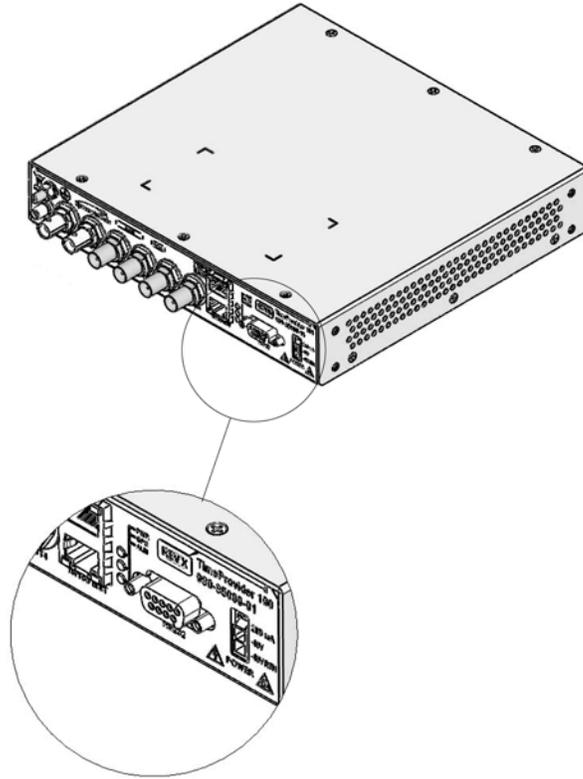

Figure 2-1. Location of TimeProvider 100 Product Label
9. Verify that the model and item number shown on the shipping list agrees with the model and item number on the equipment. The item number can be found on a label affixed to the unit. See Figure 2-1 for the location of the label. Contact your Symmetricom distributor if the model or item number does not match the information on the shipping list.